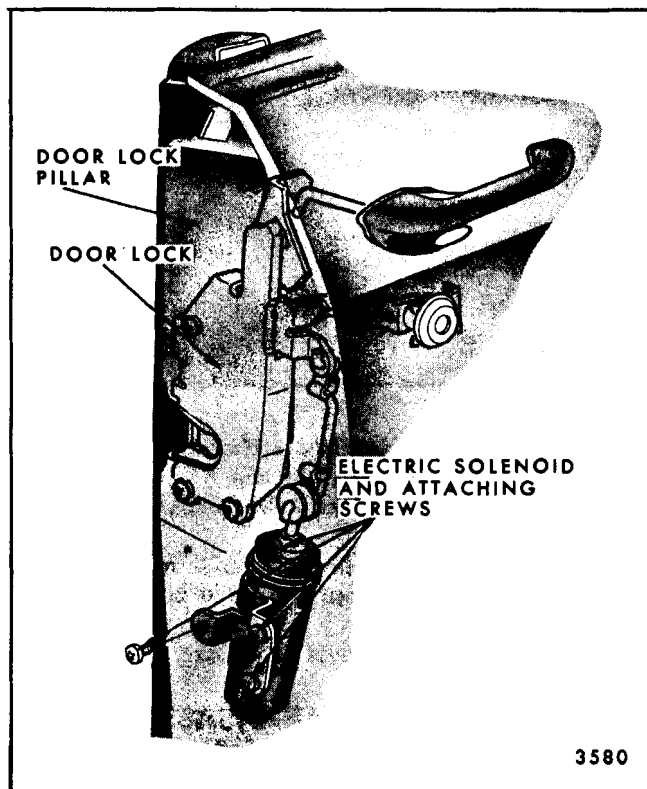

Fig. 6-24-Front Door Lock Electric Solenoid Installation
3. On front doors, remove lock pillar attaching screws, disconnect rod and remove through access hole (Fig. 6-24).